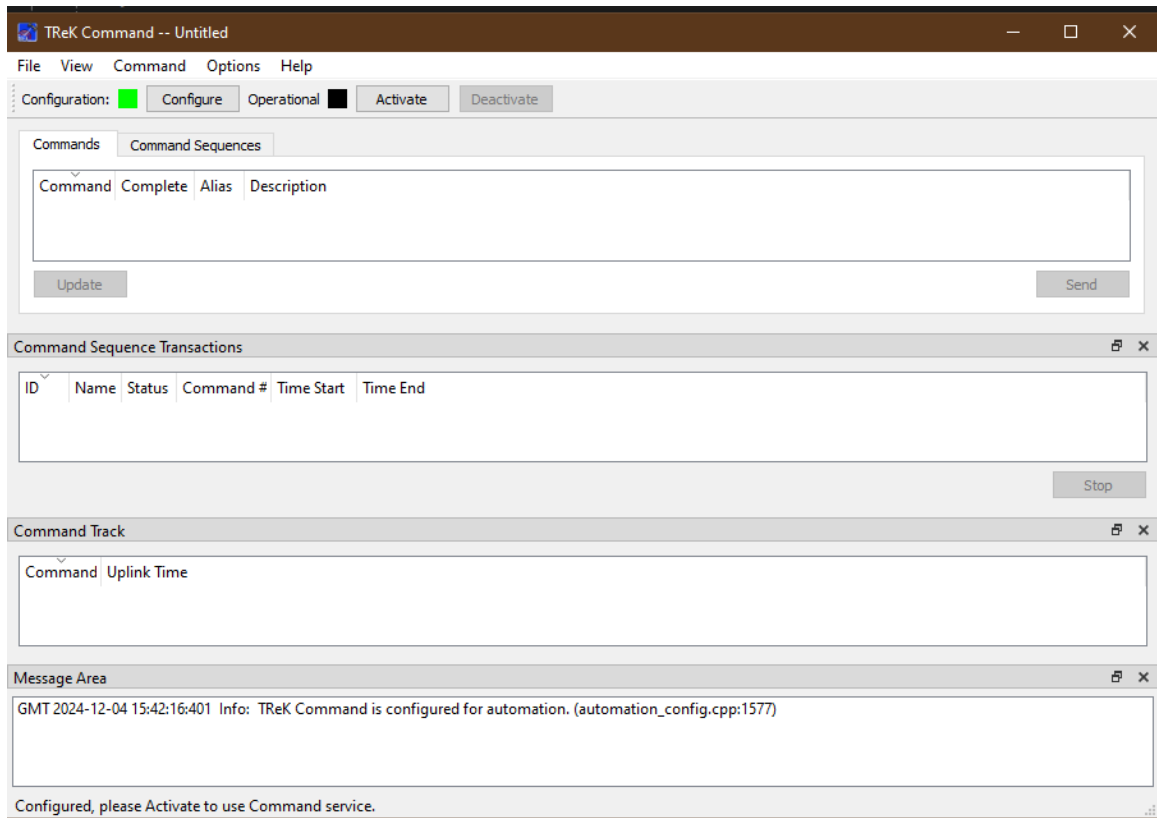

Figure 10 Main Window showing Configuration Status Green
8. Push the OK button to complete the configuration. You should see the Configuration status has turned green as shown in Figure 10.